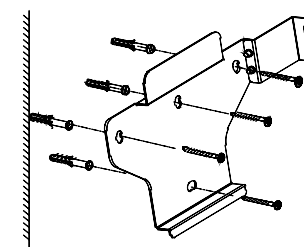

Figure 4-7 Fixing the wall bracket
④ Insert the expansion tubes into the holes and tighten them, then fix the bracket onto the wall with expansion screws by using a cross screwdriver, as shown in Figure 4-7: